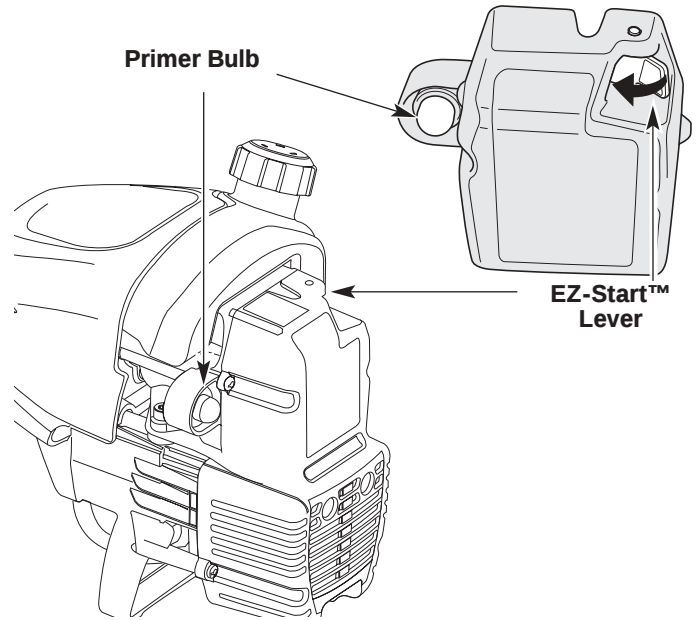

Fig. 4
3. Fully press and release the primer bulb 7 to 9 times, slowly, until **FUEL IS VISIBLE IN THE PRIMER BULB** (Fig. 4). If you can't see fuel in the bulb, press and release the bulb three (3) additional times, or as many times as it takes before you can see fuel in it.
4. Push the EZ-Start™ Lever to the left until it clicks and locks into place. (Fig. 4).
6. Squeeze the throttle control to warm up the engine for 5 to 10 seconds. The Ez-Start™ Lever will click off automatically (Fig. 4).